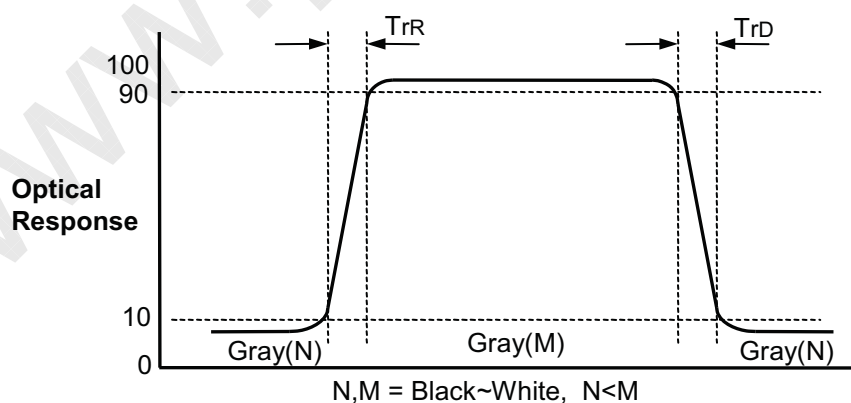

FIG.3 Response Time(G to G)
4. Response time is the time required for the display to transit from any gray to white (Rise Time, Tr_R) and from any gray to black (Decay time, Tr_D). For additional information see the FIG. 3.